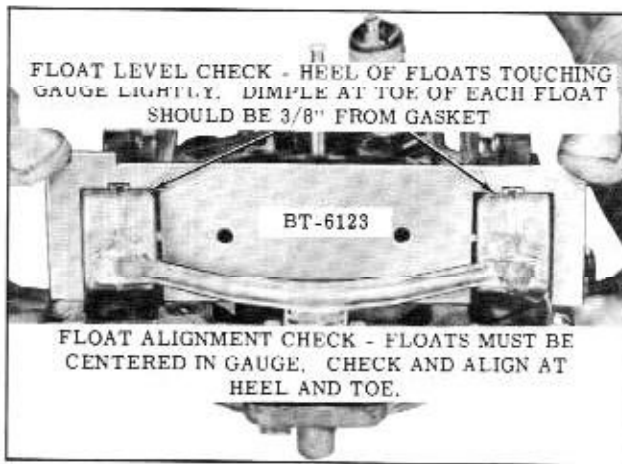

Fig. 8-108 Checking Secondary Float Level and Alignment
1. With the gasket in place and the air horn inverted, position gauge as shown in Fig. 8-108.